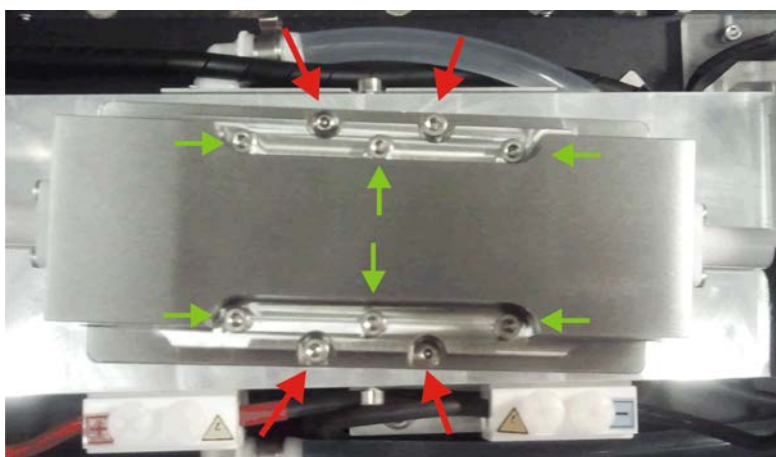

Figure 24 Screws fixing the upper chamber part
6. Unscrew six screws fixing the upper part of the laser chamber (pointed by green arrows in Figure 24. Do not release the four screws holding the underlying plate, pointed by red arrows!).